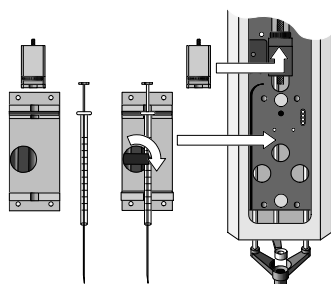

Figure 38. Syringe and Syringe Adapter for Liquid Injections
5. Move the syringe, installed in the syringe adapter, partially into the Injection Unit. First, guide the needle into the upper needle guide and then into the lower needle guide (See Fig. 38);